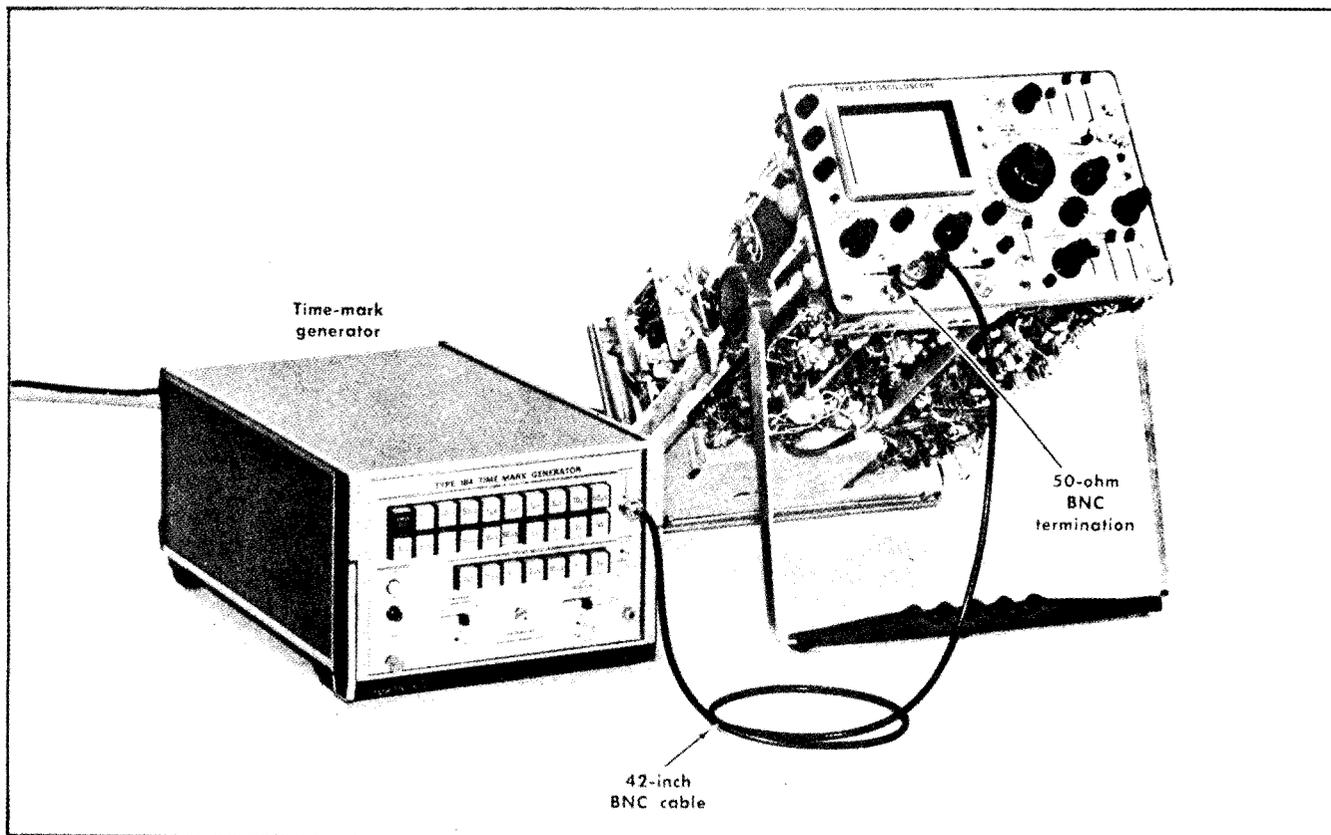

Fig. 6-37. Initial test equipment setup for steps 41 through 60.
- a. Test equipment setup is shown in Fig. 6-37.